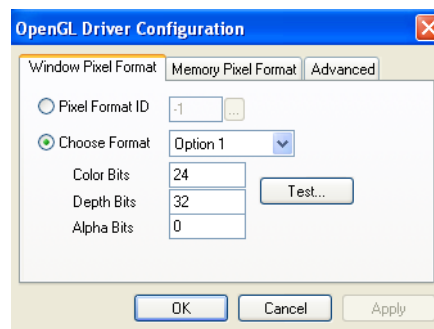

Figure 5-76: OpenGL Driver Configuration dialog box
4. In the OpenGL Driver Configuration dialog box (figure 5-76), select **Pixel Format ID** and enter this number.